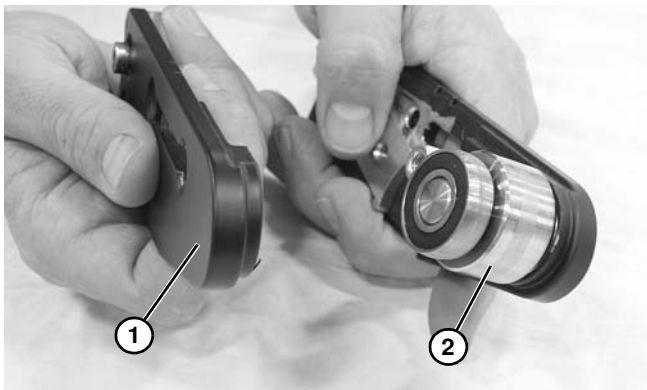

**Figure 58**
2. Loosen screw (**Figure 58, item 1**) on both sides of conveyor. Remove idler tail (**Figure 58, item 2**) from conveyor.
3. Remove fastening screw (**Figure 58, item 3**).